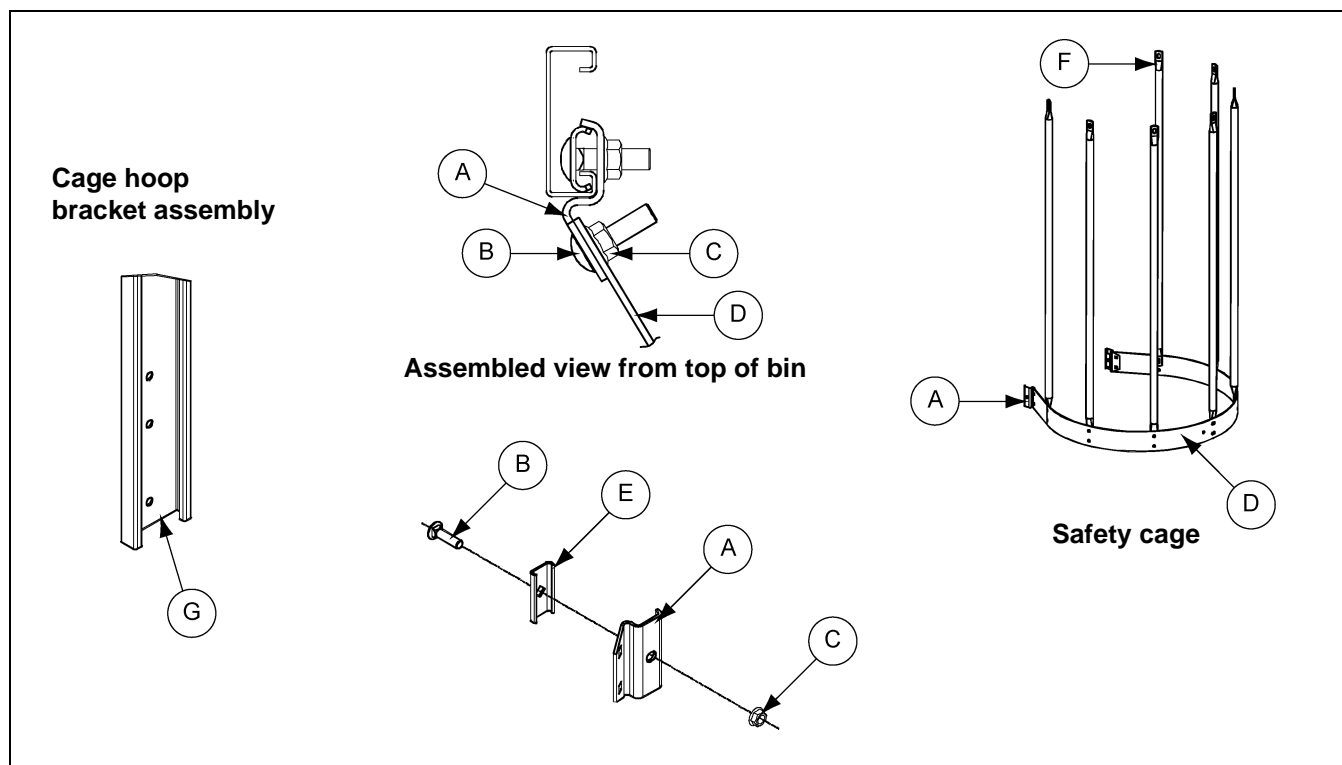

Figure 10L
Before attaching any pieces to the ladders of platform, some pre-assembly is required. Attach two (2) safety cage brackets to the ladder section. (See Figure 10L on Page 101 for assembly details.) Bolt the safety cage hoop adjuster plates onto the extension angle as shown. Using the proper configuration based upon the diameter of the bin, bolt the safety cage hoop adapters together and attach to the safety cage hoop halves. Bolt the safety cage hoop adapters and safety cage hoop halves together using the proper holes based upon the diameter of the grain bin. Be sure to use the 5/16" x 1" bolt with the head of the bolt to the inside of the safety cage. Bolt these assemblies to the safety cage brackets and hoop adjuster plates, tightening the bolts as you go. The bottom assembly requires two (2) hoop halves and will be positioned just below the platform as shown. Use the safety cage hoop adapter angle to secure the two (2) hoop half assembly to the vertical entrance angle on the platform assembly.
Attach the vertical support pieces to the existing hoop halves above using the 5/16" x 1" bolts and nuts (with the heads on the inside of the cage). Fasten two (2) hoop halves together and bolt to other end of vertical supports. Attach cage hoop brackets to ladder as shown in Figure 10L. Once cage hoop brackets have been installed, attach cage hoop halves and tighten bolts. Repeat installation for each safety cage required.
Attach the vertical supports to the hoop half assembly from the final safety cage installation using 5/16" x 1" bolts and nuts (with the heads on the inside of the cage). Assemble the special bell safety cage hoop halves and attach to other end of vertical supports. The vertical support should be bent at the flat area to allow for the bell section angle. Attach the safety cage brackets to the ladder as shown in Figure 10L on Page 101. Once the safety cage brackets are installed, attach the bell safety cage hoop half assembly to the safety cage brackets and tighten bolts.